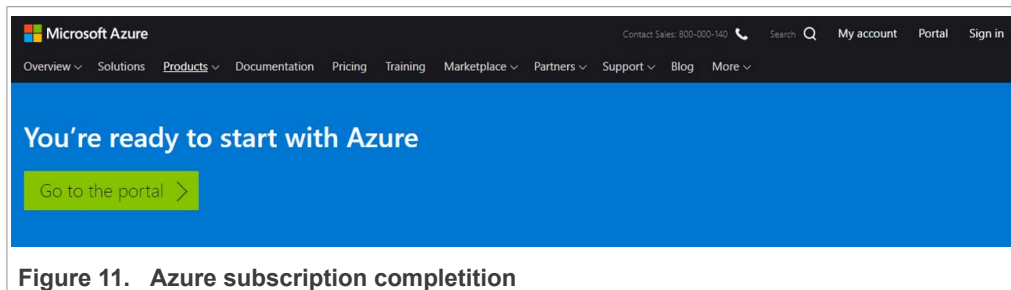

Figure 11. Azure subscription completion
5. Your Microsoft Azure account has been created. To continue, click the green **Go to the portal** button or go straight to the Microsoft Azure Portal as shown in Figure 11: